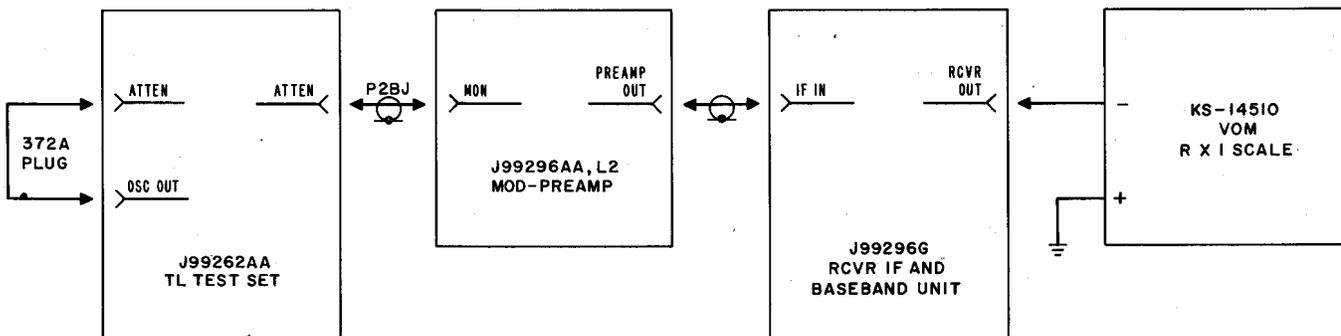

Fig. 2—Squelch Sensitivity Test—Test Setup Diagram
- 14 Make connections in accordance with Fig. 2.